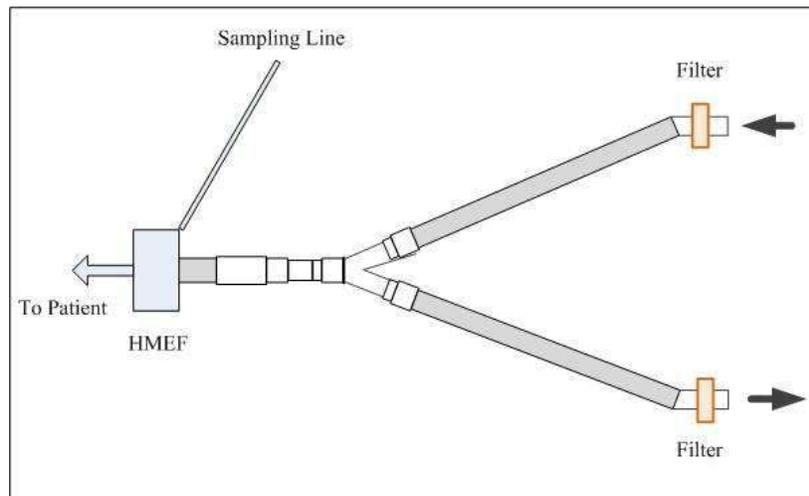
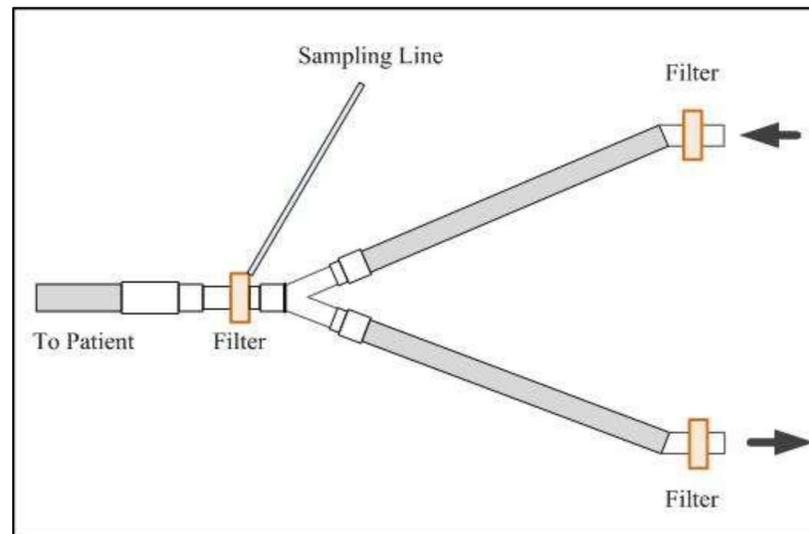

Figure 1
Figure 2
- 1.2 To reduce the possibility of infection in the breathing circuit, an HMEF (HME with filter) needs to be placed at the patient's end (Figure 1). However, if an HMEF is not available in the Operating Room (OR), one disposable breathing system filter2 can be placed between the tracheal tube and Y-piece of the breathing circuit (hoses) instead of an HMEF (Figure 2). In addition, it's strongly recommended to use two (2) additional breathing system filters at the inspiratory and expiratory ports of the breathing system (between the breathing hose and inspiratory/expiratory port of the device) (Figure 1 & Figure 2). Please note that the gas sample line of the gas measurement unit must be connected on the device side of the breathing system filter in order to avoid contamination of the gas measurement unit or the anesthesia device.3